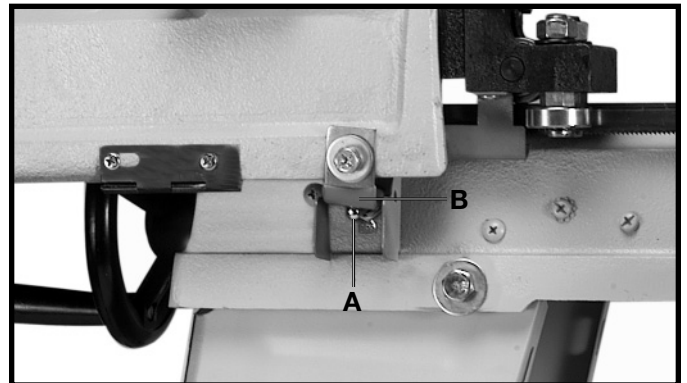

Fig. 14
When the band saw is in the horizontal position, the saw should shut itself off automatically. After a completed cut has been made, and the saw is in the down or horizontal position, the shut-off bracket (B) Fig. 14 will contact the toggle switch (A) and push it to the down position, turning off the power. **IMPORTANT: THE SHUT-OFF BRACKET (B) SHOULD NOT REST ON OR BE SUPPORTED BY THE TOGGLE SWITCH (A).**